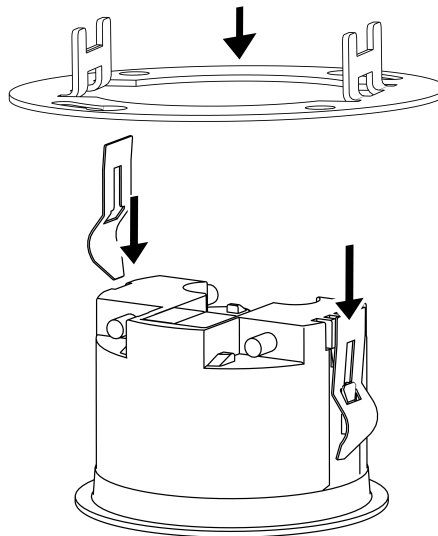

Figure 9
- Remove spring clamp (3).
- Push clamping springs (13) in the right orientation on the guides (2) from behind until they snap into place (Figure 9).